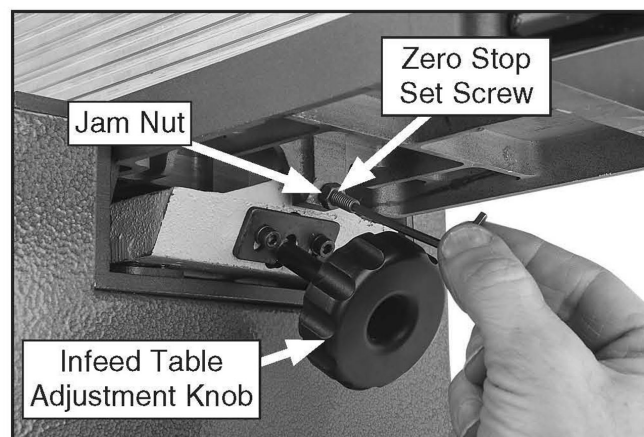

Figure 34. Zero stop components.
The zero stop (see **Figure 34**) allows the operator to consistently bring the infeed table even with the outfeed table height.
2. Loosen jam nut, and adjust zero stop set screw until it contacts table base (see **Figure 34**).